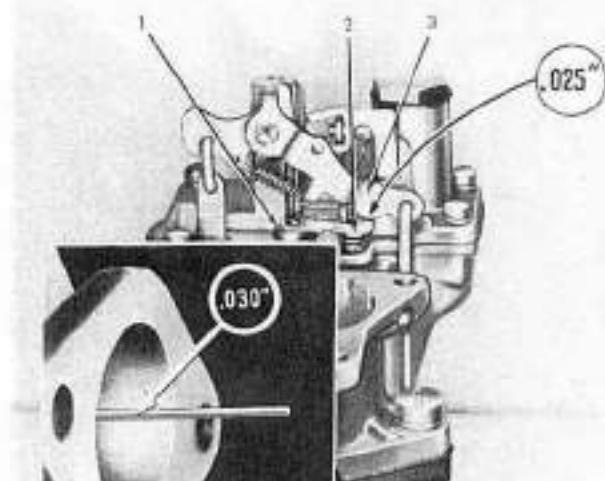

FIG. 410
To check the seating of the anti-percolator cap (1, Fig. 410), insert a $.030"$ (0.76 mm.) wire, Gage No. J-1633, in the throttle body opposite the idle port (see inset). With the throttle closed on the wire, there should be $.025"$ (0.64 mm.) clearance between the anti-percolator rocker arm (2) and the pump operating lever (3). If an adjustment is necessary, bend the anti-percolator rocker arm to obtain the proper clearance.